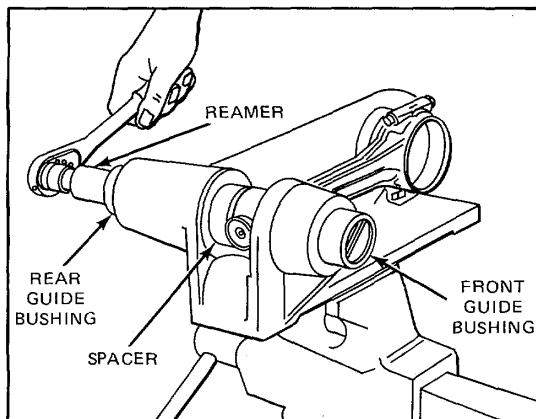

Figure 8. Reaming Bushings
- b. Place the crankshaft end of the connecting rod on the arbor of the fixture (Fig. 8). Tighten the nuts on the 3/8-24 bolts to 40-45 lb ft (54-61 Nm) torque.